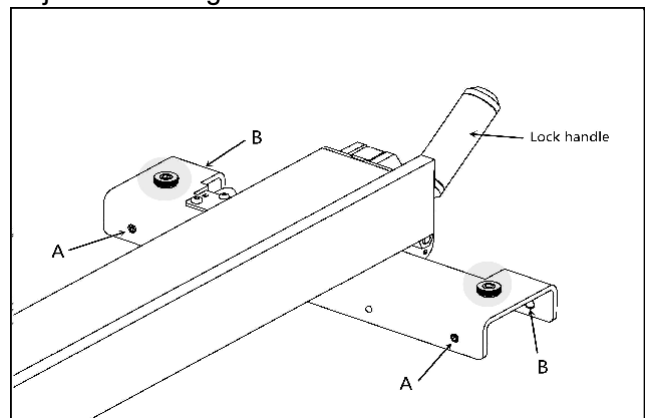

Fig. 12
4. Adjust the parallelism and perpendicularity of the fence (Fig.12)
By adjusting the set screw (A), you can adjust the parallelism between fence and blade, also you can adjust the locking strength. By adjusting the bolt marked in a circle as shown in Fig. 12, you can adjust the the perpendicularity between the fence and table. By adjusting the set screw (B), you can adjust the sliding smoothness of the fence.